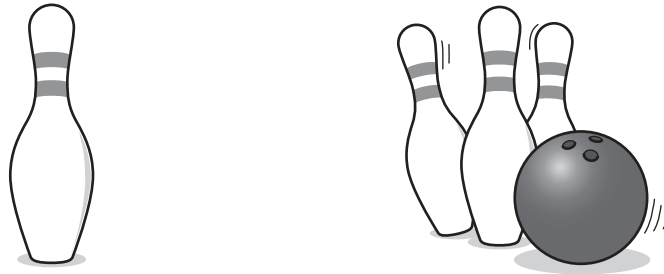

Fig. 5
- 14 Fig. 5 shows the design for a bowling pin and bowling pins being struck by a bowling ball.